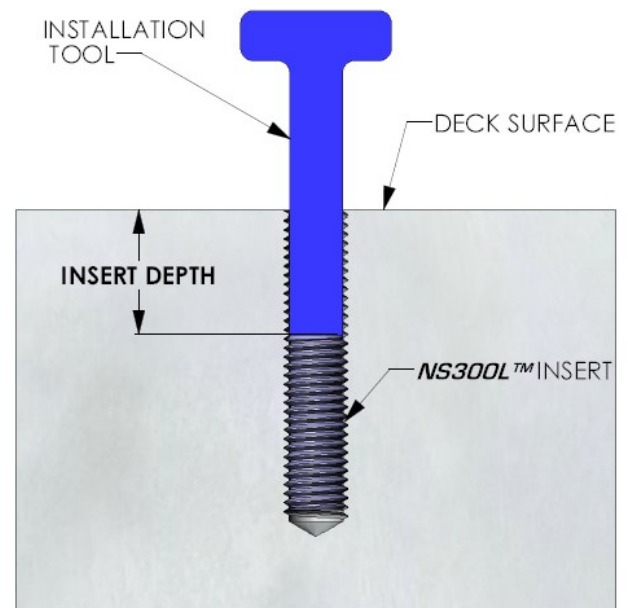

FIGURE 4
7. Thoroughly clean the newly threaded hole of any metal chips. Next, check to make sure the inserts will install to the correct depths (see below), ***prior*** to adding Threadlock (Figure 4).